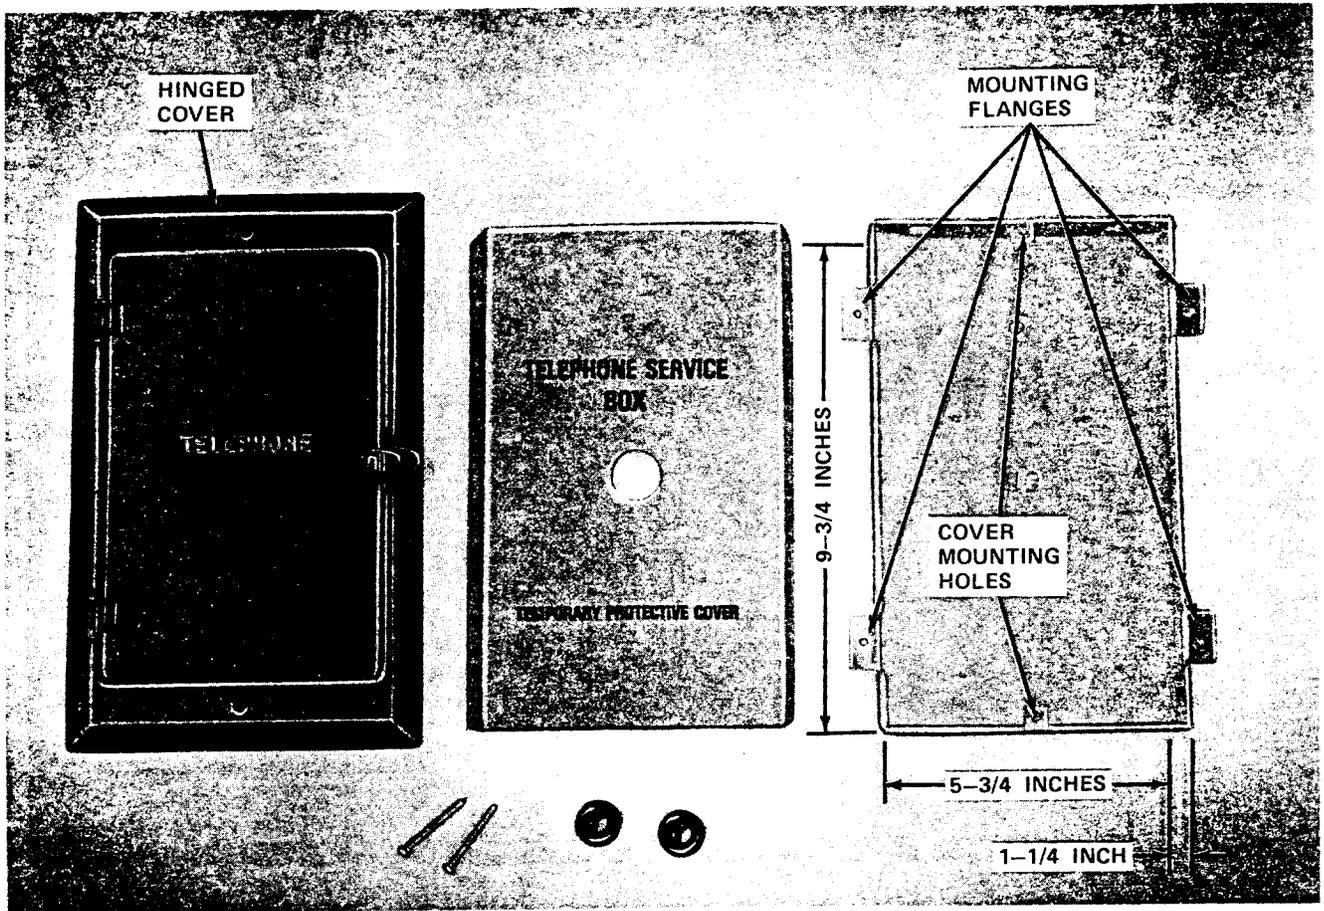

Fig. 7—810B Station Service Box
C. 810B Station Service Box (Fig. 7)